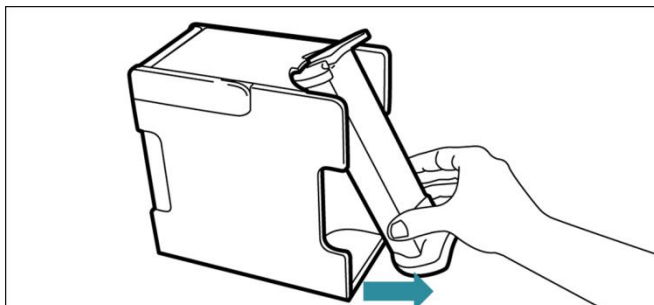

Fig. 28
20. Remove the holder for the external canister „Bag" from the device by grasping it at the bottom in the middle and pulling it out of the canister fitting over the rack on the bottom (Fig. 28). Dispose of the holder for the external canister "Bag".